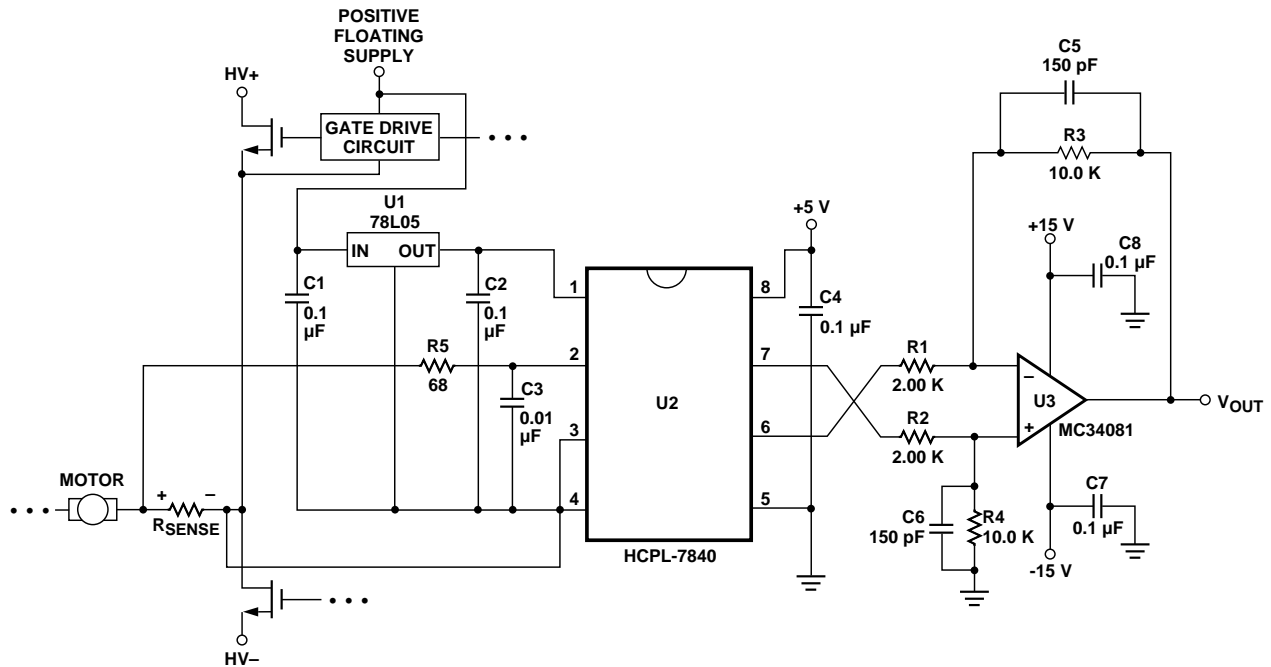

Figure 23. Recommended Application Circuit.
8. CMR (also known as IMR or Isolation Mode Rejection) specifies the minimum rate of rise of a common mode noise signal applied across the isolation boundary at which small output perturbations begin to appear. These output perturbations can occur with both the rising and falling edges of the common mode waveform and may be of either polarity. A CMR failure is defined as a perturbation exceeding 200 mV at the output of the recommended application circuit (Figure 23). See applications section for more information on CMR.
The recommended application circuit is shown in Figure 23. A floating power supply (which in many applications could be the same supply that is used to drive the high-side power transistor) is regulated to 5 V using a simple three-terminal voltage regulator (U1). The voltage from the current sensing resistor, or shunt (R_{sense}), is applied to the input of the HCPL-7840 through an RC anti-aliasing filter ($R5$, $C3$). And
As shown in Figure 23, 0.1 μF bypass capacitors ($C2$, $C4$) should be located as close as possible to the input and output power supply pins of the HCPL-7840. The bypass capacitors are
The recommended method for connecting the isolation amplifier to the shunt resistor is shown in Figure 23. Pin 2 (V_{IN+}) is connected to the positive terminal of the shunt resistor, while pin 3 (V_{IN-}) is shorted to pin 4 (GND1), with the power-supply return path functioning as the sense line to the negative terminal of the current shunt. This allows a single pair of wires or PC board traces to connect the isolation amplifier circuit to the shunt resistor. In some applications, however, supply currents flowing through the power-supply return path may cause offset or noise problems. In this case, better performance may be obtained by connecting pin 3 to the negative terminal of the shunt resistor separate from the power supply return path. When connected this way, both input pins should be bypassed. Whether two or three wires are used, it is recommended that twisted-pair wire or very close PC board traces be used to connect the current shunt to the isolation amplifier circuit to minimize electromagnetic interference to the sense signal.
The recommended application circuit (Figure 23) includes a post-amplifier circuit that serves three functions: to reference the output signal to the desired level (usually ground), to amplify the signal to appropriate levels, and
To maintain overall circuit bandwidth, the post-amplifier circuit should have a bandwidth at least twice the minimum bandwidth of the isolation amplifier, or about 200 kHz. To obtain a bandwidth of 200 kHz with a gain of 5, the op-amp should have a gain-bandwidth greater than 1 MHz. The post-amplifier circuit includes a pair of capacitors (C5 and C6) that form a single-pole low-pass filter. These capacitors allow the bandwidth of the post-amp to be adjusted independently of the gain and are useful for reducing the output noise from the isolation amplifier (doubling the capacitor values halves the circuit bandwidth). The component values shown in Figure 23 form a differential amplifier with a gain of 5 and a cutoff frequency of approximately 100 kHz and were chosen as a compromise